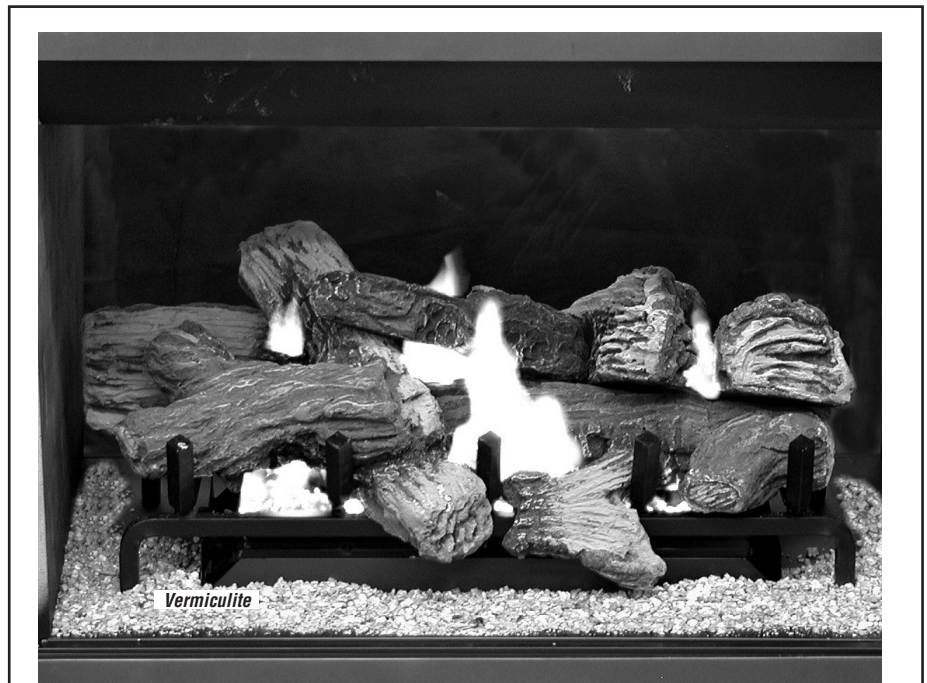

Figure 77 - Burner Flame Appearance
1. Refer to **Figure 77, page 53** for proper flame appearance. To adjust the flame, rotate the adjustment rod toward the back or toward the front of the fireplace (rod located in the lower control area). Position the air shutter to the factory setting as shown in the table in **Figure 78**.